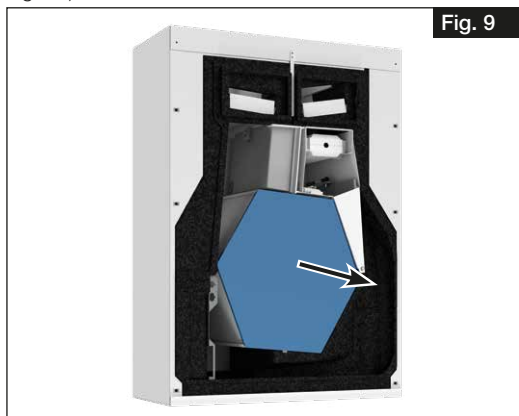

Fig. 9
- Remove the heat exchanger from the unit to reduce the weight (see Fig. 9).